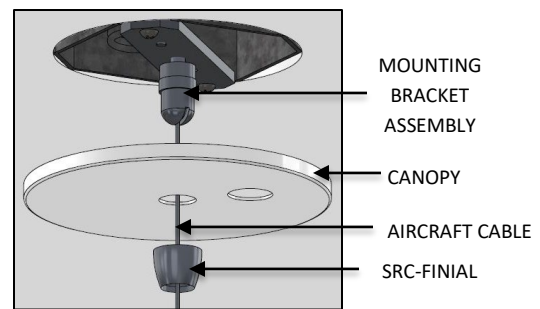

FIG. 30 – CANOPY INSTALLATION
12. Feed the AIRCRAFT CABLE from the MOUNTING BRACKET ASSEMBLY through the center hole of the CANOPY and SRC-FINIAL. Loosely secure CANOPY to the ceiling by threading the SRC-FINIAL to the MOUNTING BRACKET ASSEMBLY as shown below in FIG. 30.